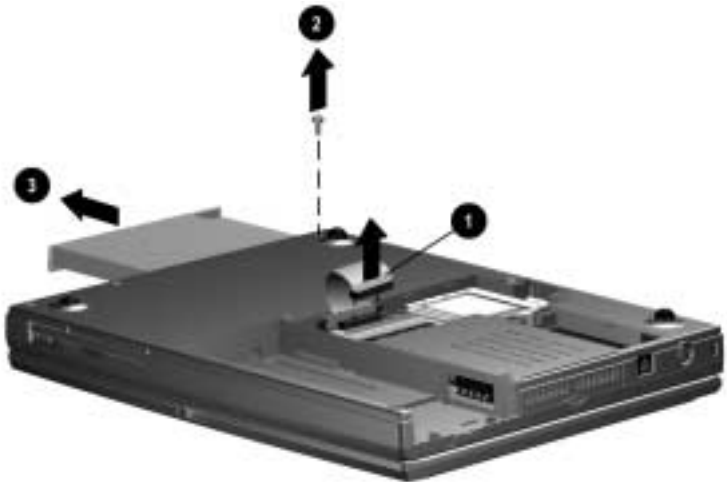

Figure 5-8. Removing the CD-ROM Drive
3. Disconnect the CD-ROM drive cable from the system board **❶** (Figure 5-8).
4. Remove the screw securing the CD-ROM drive to the base assembly **❷**.
5. Push on the back of the CD-ROM drive and slide the drive to the left **❸**.